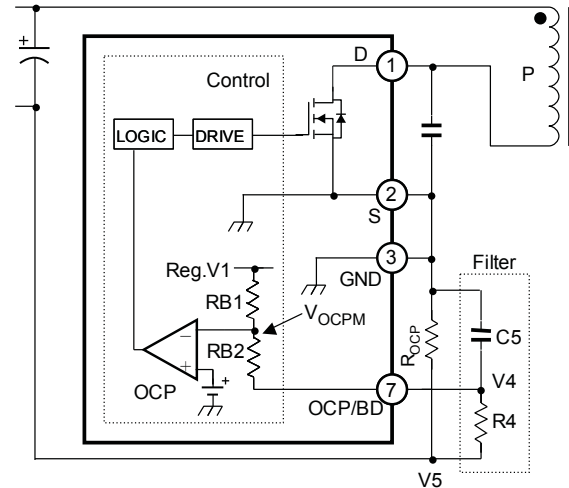

Figure 15. OCP functional block diagram
**Negative-detection type OCP circuit** The OCP circuit of the STR-X6700 series is a pulse-by-pulse type, which detects the peak value of the MOSFET drain current for each pulse and inverts the oscillator output. As shown in figure 15, the overcur-